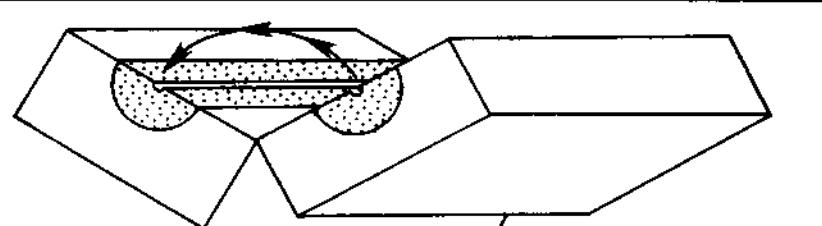

FIGURE B.24
**booking** Booking refers to green and dry sand cores (Fig. B-24). Using a full-core box, ramming each half box with sand and striking both off level with the box and closing them together like a book brings the mating surfaces at the parting line together. Then remove one half box and place a *drier* in place of the half box that was removed. Roll the remaining half box and drier over and remove the box leaving the core resting in the drier for baking. In the case of a green sand core on a half arbor, remove the core from the box.